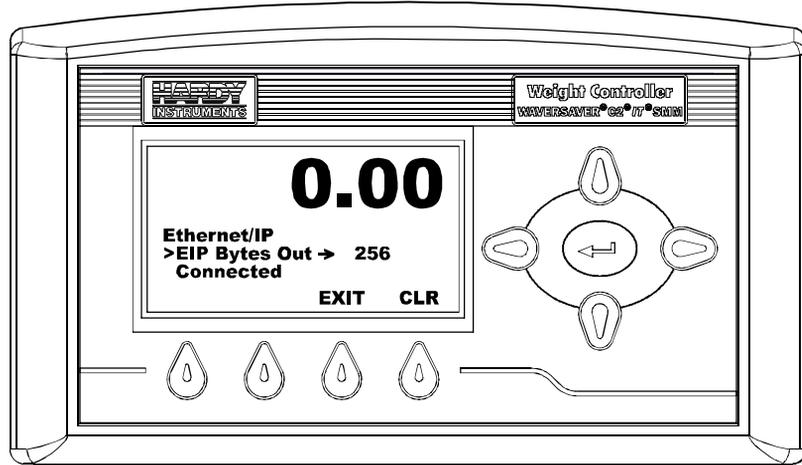

FIG. 132 ETHERNET/IP MENU/SELECTING EIP BYTES OUT
Step 14. Press the Down Arrow button until the cursor is in front of “EIP Bytes Out”. (See Fig. 132) The current value is displayed.
The key number entered in Fig. 132 is for illustration purposes only and does not resemble a key number in any way. Your ROC key number will vary.